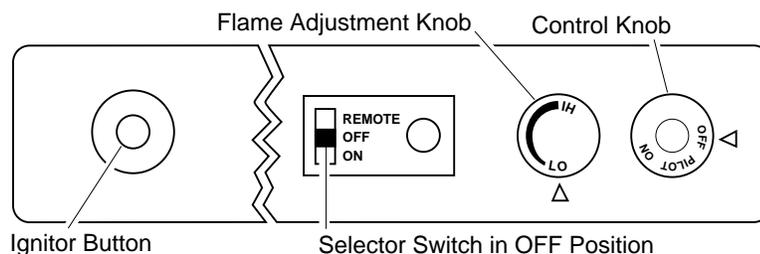

Figure 31 - Control Knob and Ignitor Button Location
5. Wait five (5) minutes to clear out any gas. Then smell for gas, including near the floor. If you smell gas, STOP! Follow "B" in the safety information in column 1. If you don't smell gas, go to the next step.
6. Press in and turn control knob counterclockwise to the PILOT position. Press in control knob for five (5) seconds (see Figure 31).